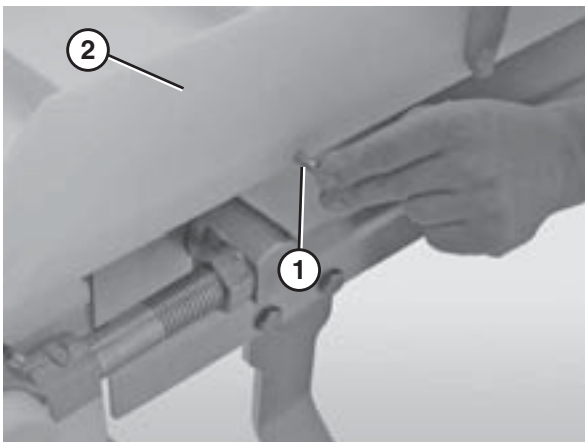

Figure 37
1. Remove the guides, if applicable, by removing the pull pins (Figure 37, item 1) that connect the guide (Figure 37, item 2) to the frame.